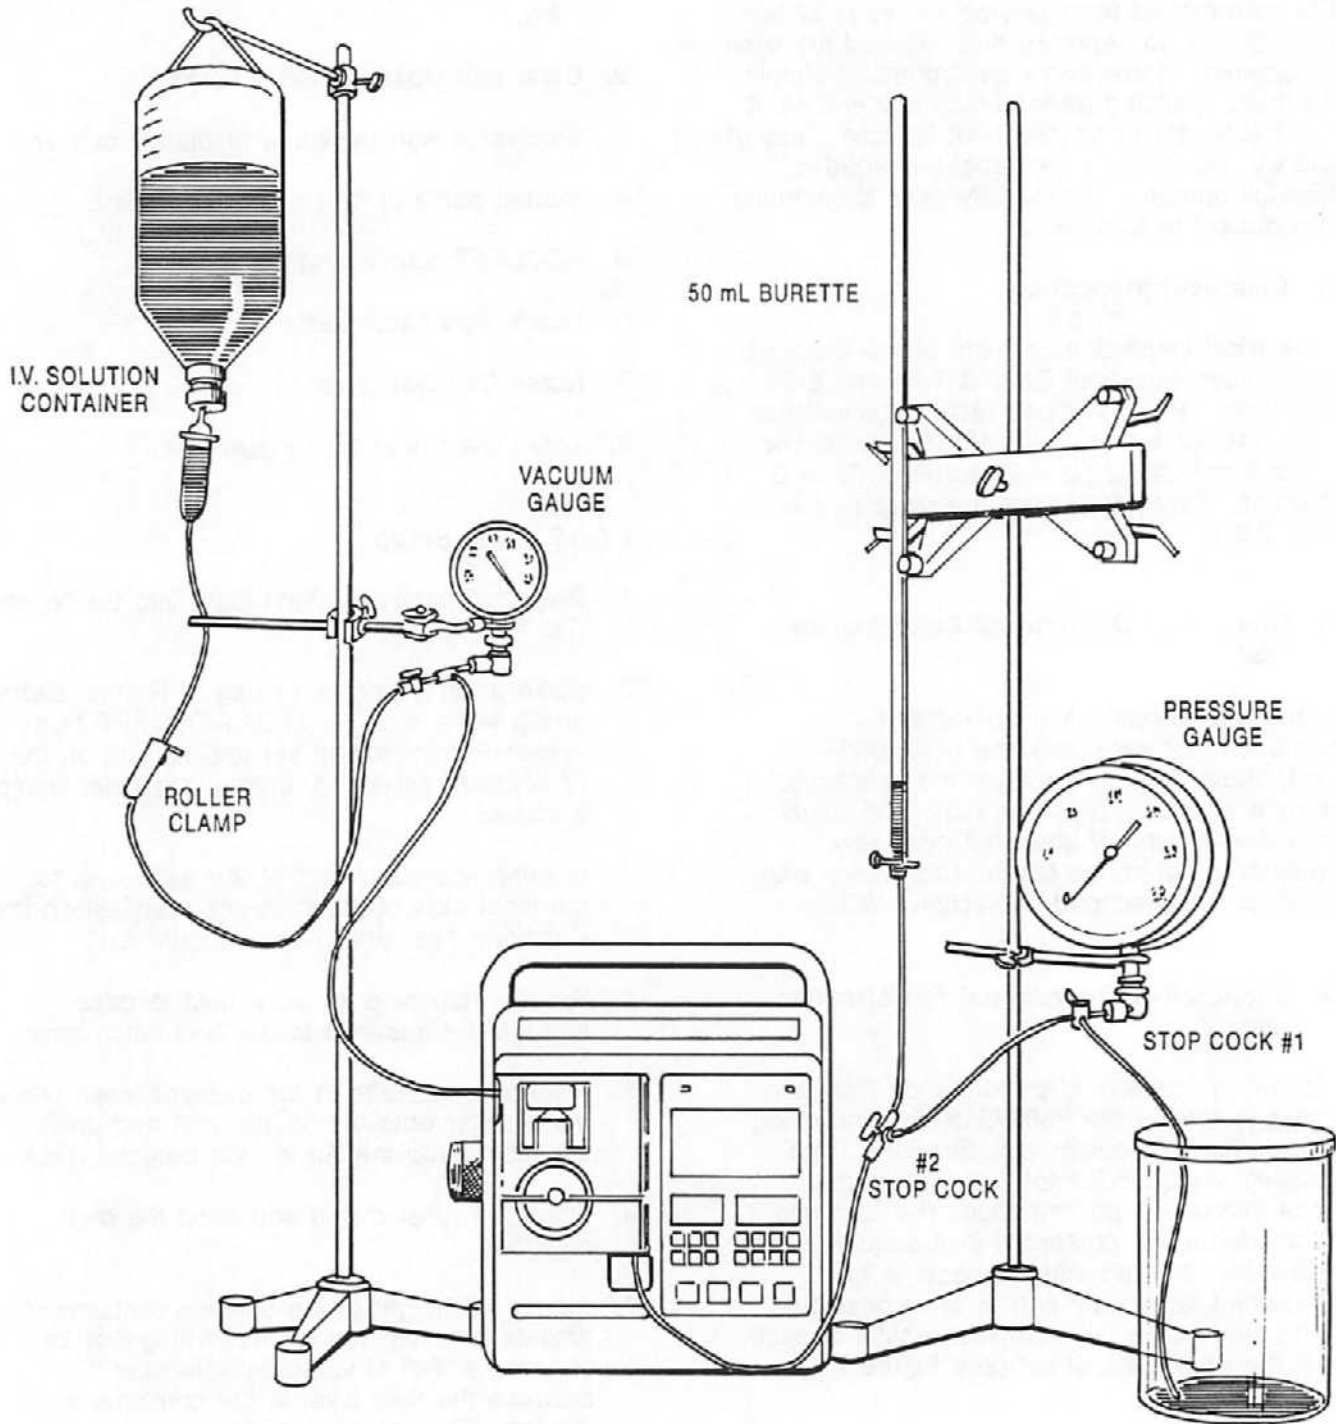

Figure 5-1. Universal Test Station Setup
1. Universal test station, including: (see Figure 5-1)
3. Connect the distal end of the tubing set to the input side of the stopcock manifold on the Universal Test Station (see Figure 5-1).